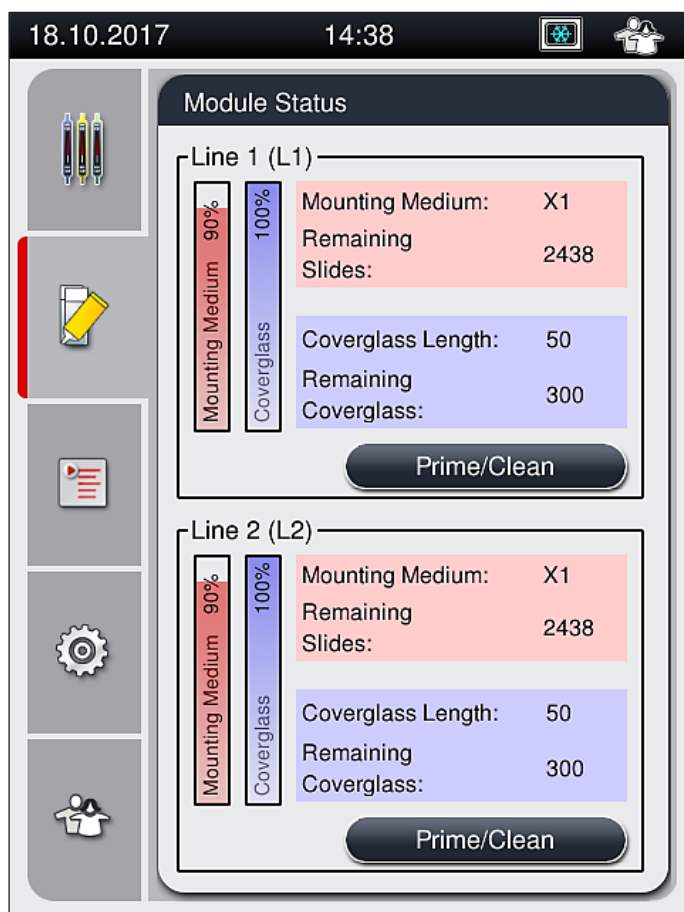

Fig. 53
10. The mounting medium bottles that are reinserted are detected by the instrument software and the **Module Status** (→ Fig. 53) is updated.